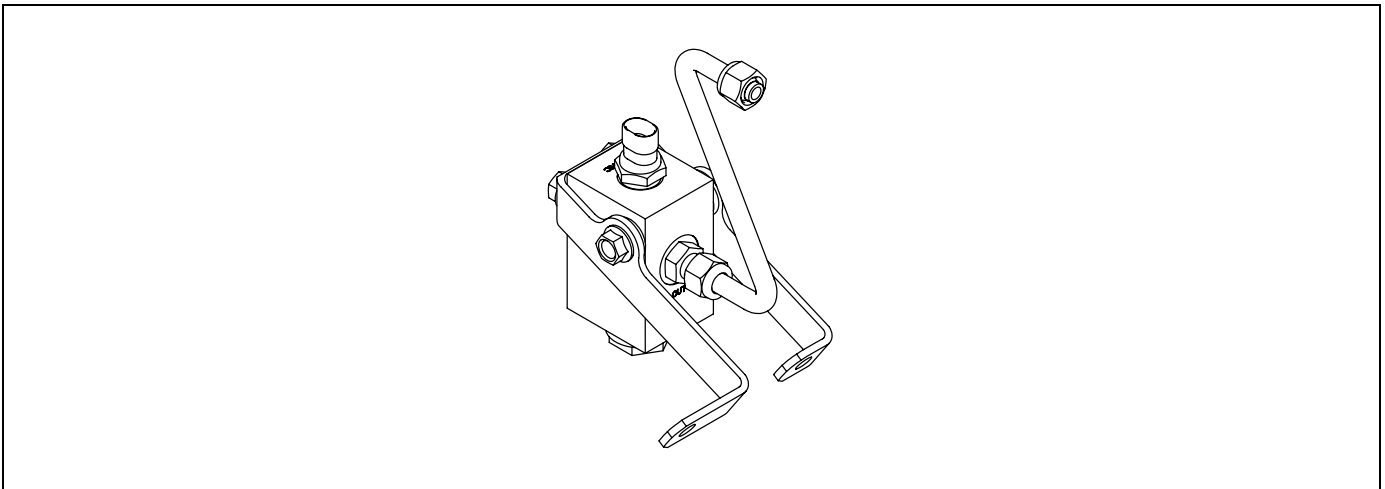

Figure 6: Regulator with discharge tube attached. Refer to step 16
15. Loosely install the regulator discharge tube onto the regulator outlet (Figure 6).